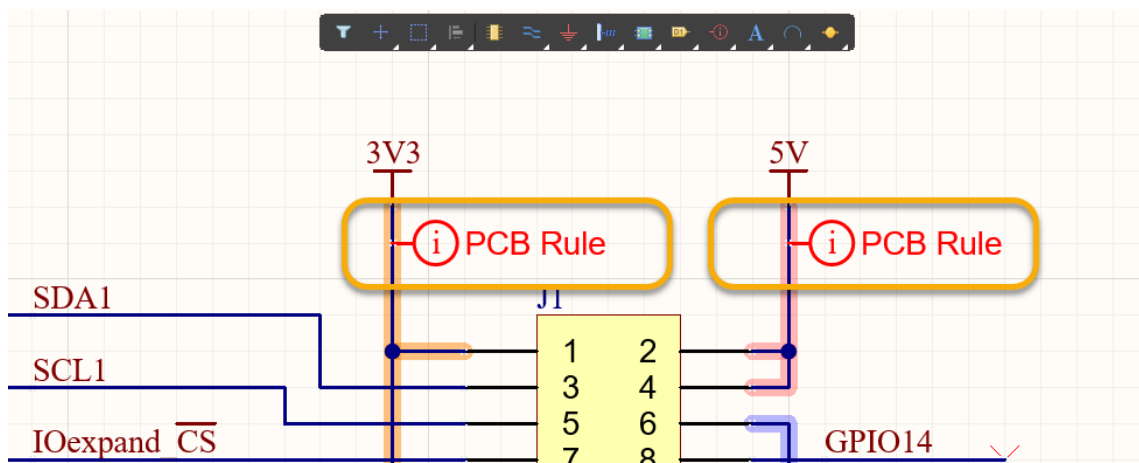

Figure 11. Placing the PCB Rule directives in the schematic
- i) Place the PCB Rule Directive on both the 3V3 and 5V wires extending from the top of the J1 component as shown in Figure 11.